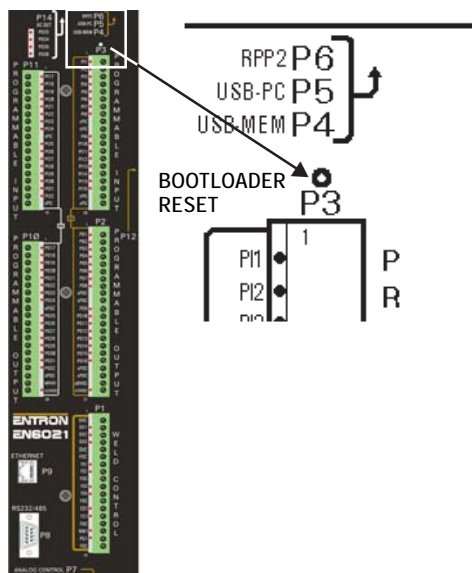
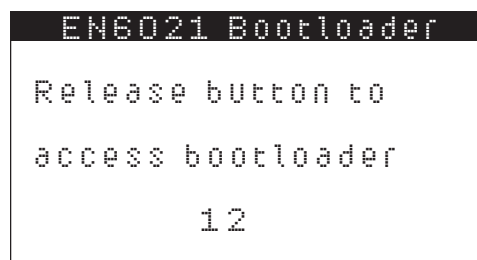

Figure B-1.
Figure B-2.
2. Push and hold Bootloader Reset button on CPU panel (see Figure B-1) and power on control. Display on RPP2 pendant will appear as in Figure B-2. Control will await release of button within 12 seconds. If button is released or pendant operated within 12 seconds, control will access Bootloader function; otherwise control will execute regular firmware function.